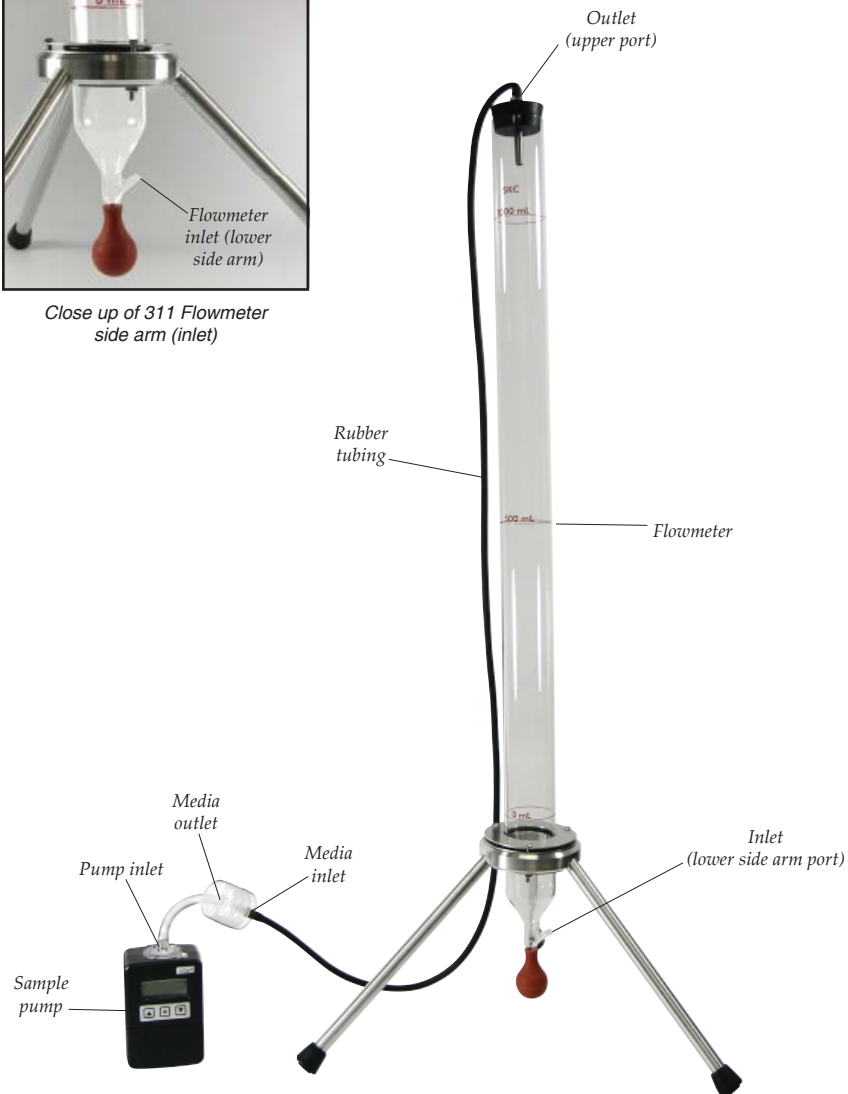

Figure 1.
*To calibrate a sample pump*, connect the pump, with the sampling media in line if applicable, to the appropriate end of the flowmeter. If the pump **draws** air, connect it to the rubber tubing attached to the rubber stopper (see Figure 1 on reverse side). If the pump **blows** air, connect it to the lower side arm of the flowmeter using rubber tubing. The 311 Laboratory Film Flowmeter Kit is calibrated to a primary standard  $\pm 2\%$  of the volumes marked on the flowmeter.